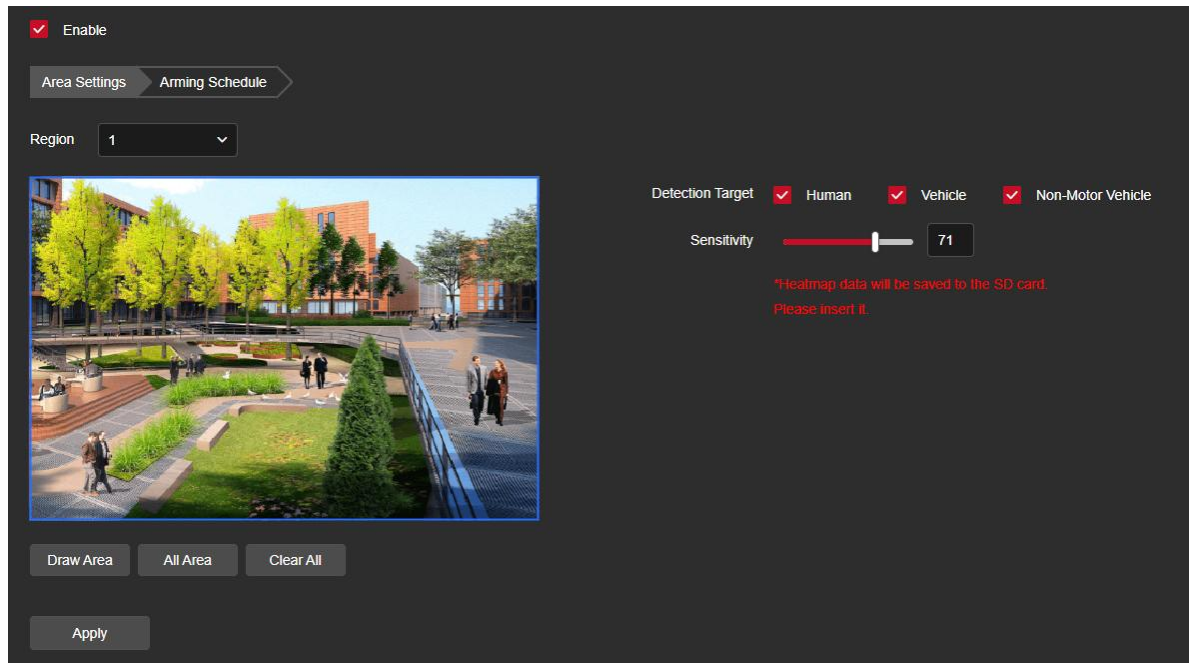

Figure 8-6-57
Step 1: In the main interface click on the "Configuration → Event → Smart Event → Heatmap" to enter the Heatmap settings interface, as shown in Figure 8-6-57.